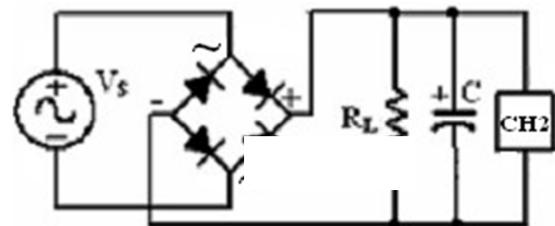

Figure.4
- Construct the circuit shown in Figure.4 by using the **Bridge rectifier** component.